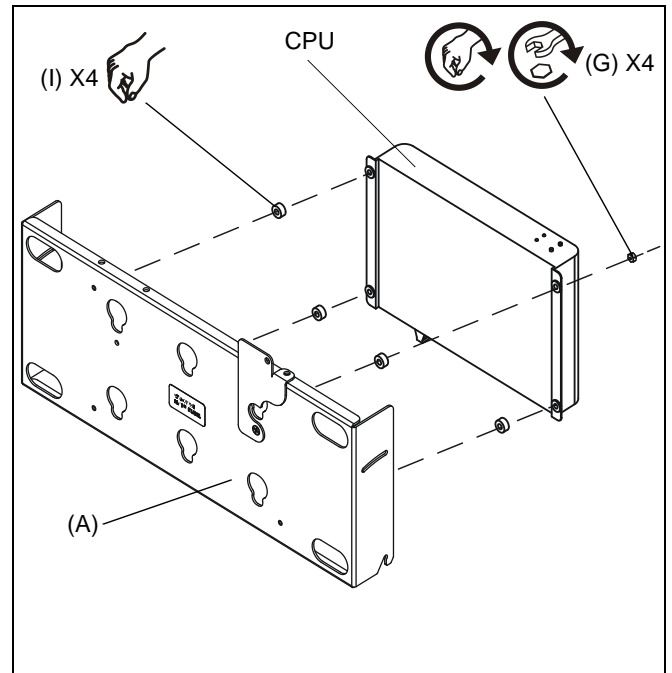

Figure 4
6. Secure CPU to four studs on back of front bracket using four spacers and four #6-32 lock nuts. (See Figure 4)